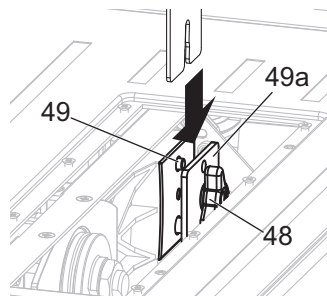

Fig. 11a
- > Insert the riving knife [24] to the left of the tri-wing nut and both washers (see Fig.11a). Then push the riving knife down, when you hear a “click” the pin [49] is locked into the hole on the riving knife [24].